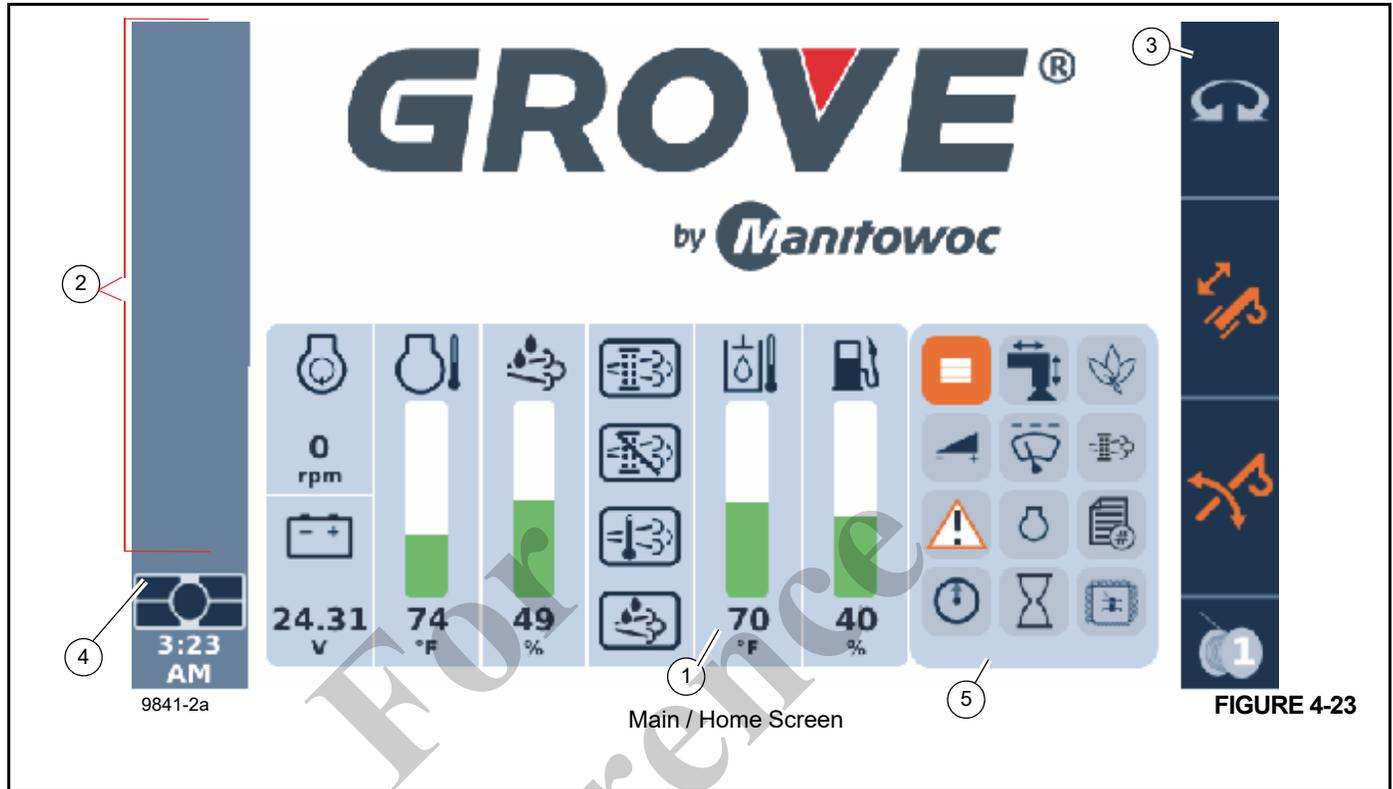

FIGURE 4-23
The Jog Dial can control one display module at a time. An active screen Indicator (3), (Figure 4-23) appears in the lower left corner of either the ODM or RDM to indicate to the operator which display module is being controlled by the Jog Dial at that time. The Screen Toggle Button (3), (Figure 4-22) is used to switch between controlling the ODM or RDM.
The Main (Home) Screen (Figure 4-23) appears on the ODM (lower display) when the key switch is initially set to the ON position.
- **Status Area** (1), (Figure 4-23) displays icons and level gauges status for crane's system variables.
- **Alerts Area** (2), (Figure 4-23). (Refer to *Alert Icons*, page 3-39)
- **Status Bar** (3), (Figure 4-23). (Refer to *Status Bar Icons*, page 3-42)
- **Active Screen Indicator Area** (4), (Figure 4-23). The icon shown appears in the active screen.
- **Quick Menu** or most often used Icons (5), (Figure 4-23). Displays the icons for the most often used menus.
The following icon can appear in the Active Screen Indicator Area (4), (Figure 4-23) of the ODM Main Screen: